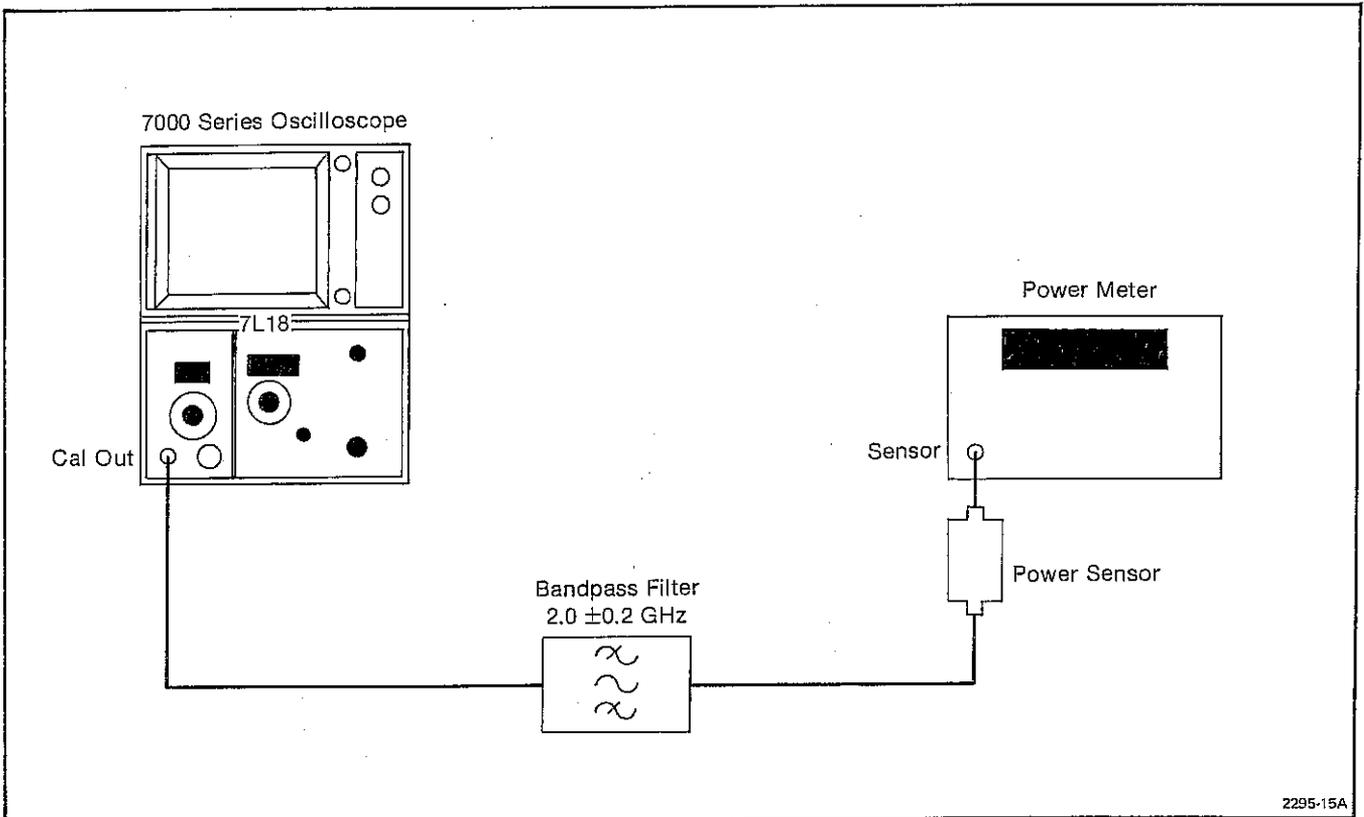

Fig. 4-1. Calibrator Output Level Test Setup.
1. Connect the test setup as shown in Fig. 4-1. Set the 7L18 front panel controls as follows: